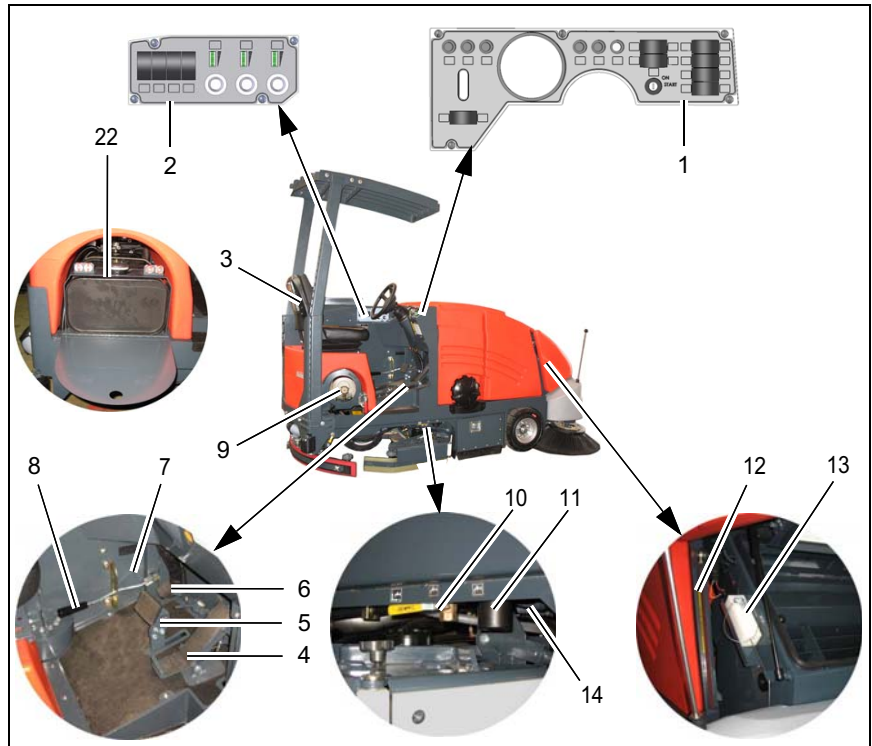

Fig.5
2. Before sweeping, set lever of broom ground pressure (Fig. 5/8) into top position